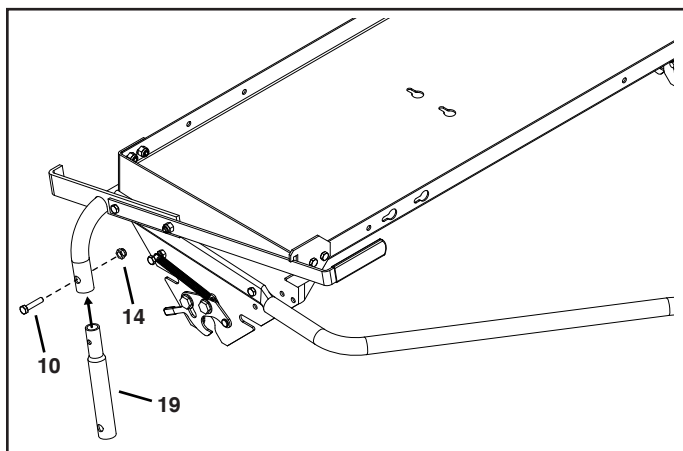

FIGURE 6
12. Attach the lower lift tubes (19) to the lift tube assembly using two 5/16 x 1-1/2" hex bolts (10) and 5/16" nylock nuts (14). See figure 6. **Tighten**.